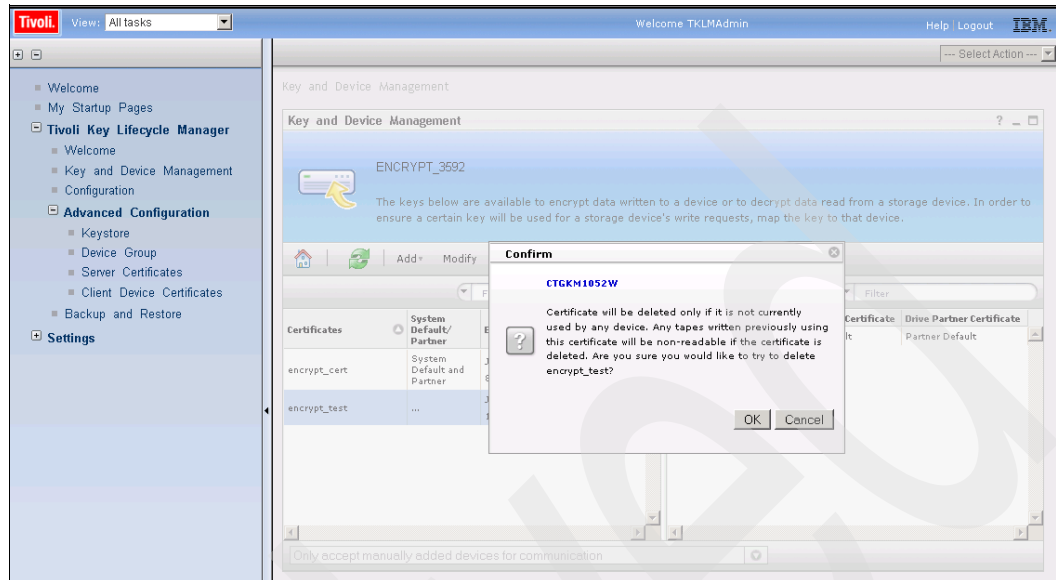

Figure 9-64 3592 certificate deletion warning message
- The deletion of a 3592 certificate will generate a warning message, as shown in Figure 9-64.